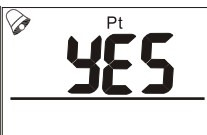

Fig.16
Press  to enter. Press  or  to enable (YES) or disable (NO) the alarm function. (Fig.16). Then, press  or  to adjust the alarm threshold value you need. The adjustable scale is every 1 degree. Press  to save. Press  to escape.